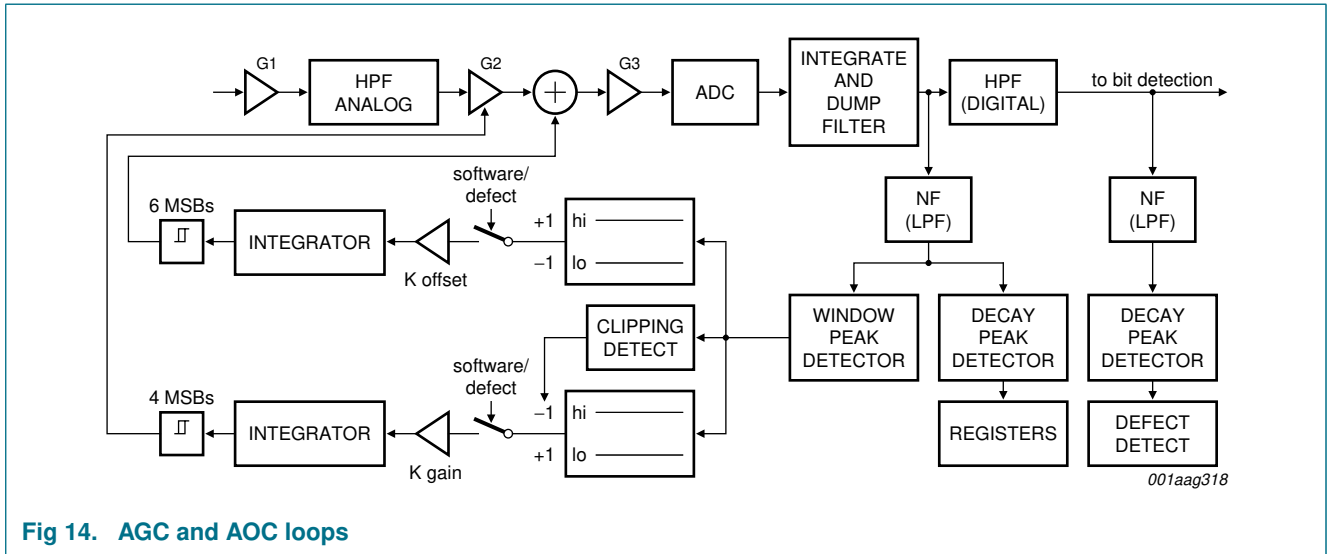

Fig 14. AGC and AOC loops
**AGC and AOC control block:** The AGC control block controls the RF amplitude at the input of the ADC by controlling the gain of an on-chip analog gain amplifier. The AOC control block controls the RF offset at the input of the ADC by adding or subtracting the offset just before the ADC. Both AGC and AOC loops are built up in the same manner and are shown in Figure 14 in their relative position within the signal conditioning block.